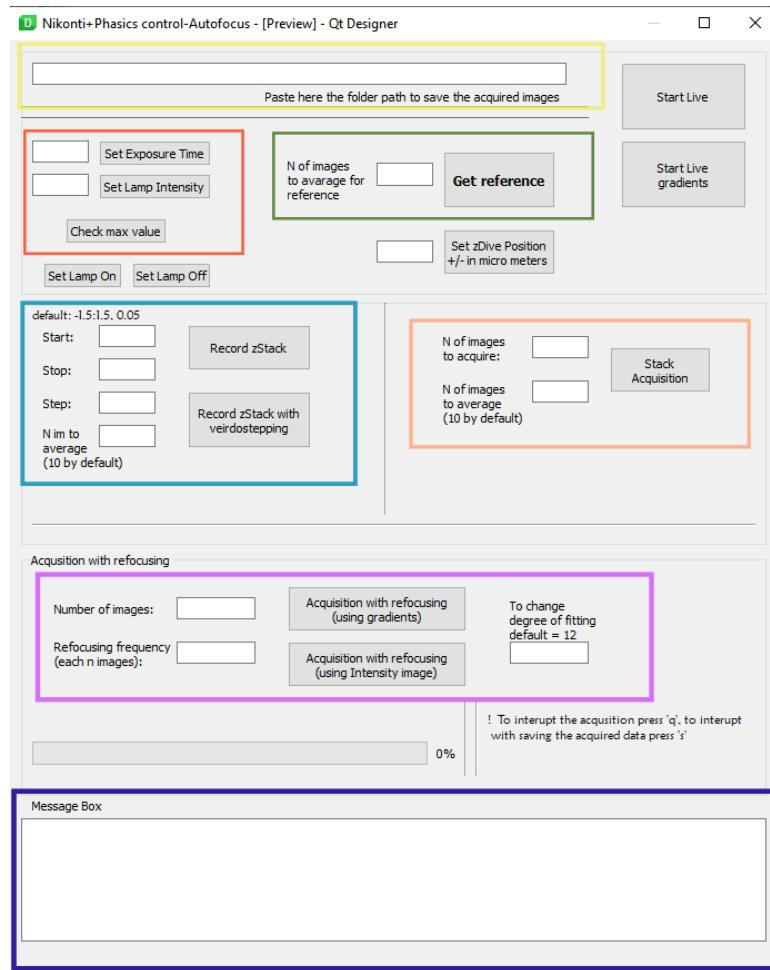

Figure 4: GUI window for transmission illumination setup
If the installation and MM initialization were successful, the GUI window should appear (figure 4). It is possible that you may encounter some issues; if standard troubleshooting methods (such as searching StackOverflow) don't resolve the problem, do not hesitate to contact me).
1. Create a folder where you will save all the acquired data, and insert the path into the line (figure 4, yellow box).
2. For reference, there are two important parameters to enter: Exposure Time and Lamp Intensity. Typically, the exposure time in our experiments was set to 80 ms, and the lamp intensity was adjusted to values between 7 and 8 (depending on the sample; if the tissue was thicker, the intensity needed to be increased). To properly adjust these values, you can use the "Check max value" button. The value will be displayed in the message box of the GUI. Ensure that there is no saturation, and it is preferable to keep the value around 40,000 to 50,000 (assuming 65,000 is the maximum) (figure 4, red box).
3. To acquire the reference, enter the number of images to average (typically set to 200) and press the "Get reference" button (figure 4, green box). During the reference acquisition, move the XY stage around the sample quickly; you may also slightly adjust the focus knob. The goal is to obtain an averaged wavefront from the specific sample. A new reference must be acquired for every new sample. The obtained reference will be displayed in the Napari Viewer. Ensure that the fringes of the interferogram are clearly distinguishable (ex: figure 4, b).
6. Once you defined the field of view it shouldn't be moved and the reference z-stack can be recorded. There are two possibilities: to record full z-stack, with regular stepping (by default = 0.05 μm) or to use weirdstepping (0.05 μm around 0 position in the range of [-0.4, 0.4] μm , and bigger steps (0.2 μm) further from it). There is also such parameter as "N im to average" (default = 10), can be changed if required (smaller will increase the speed) (figure 4, blue box).
7. **Acquisition with refocusing.** You will need to input the 'Number of images' you plan to acquire and the 'Refocusing frequency,' which determines how many images will be captured between each refocusing step. There are two methods available for refocusing: using gradient images (as described in the article) or using only intensity images. The intensity-based option was added to allow the software to be used even when the QLSI module is unavailable. In such cases, adequate autofocusing performance can still be achieved using standard EMCCD or sCMOS cameras with intensity images (see figure 4, purple box). A graph displaying the determined drift and the cross-correlation (CC) curve at each autofocusing step will appear, enabling you to monitor the system's performance.
8. There is also an option to record a stack of raw images (interferograms in the case of the QLSI module), which can be analyzed later. This is typically used to assess the drift present in the sample during acquisitions without active refocusing. (figure 4, orange box). It is recommended to not record too large stacks of images and to limit the acquisitions to 300 frames (*Note : for the moment the stacks are continuously saved into single file. It will be modified in near future*)
9. Important messages and descriptions of the actions being performed will be displayed in the 'Message Box.'(figure 4, dark blue box).